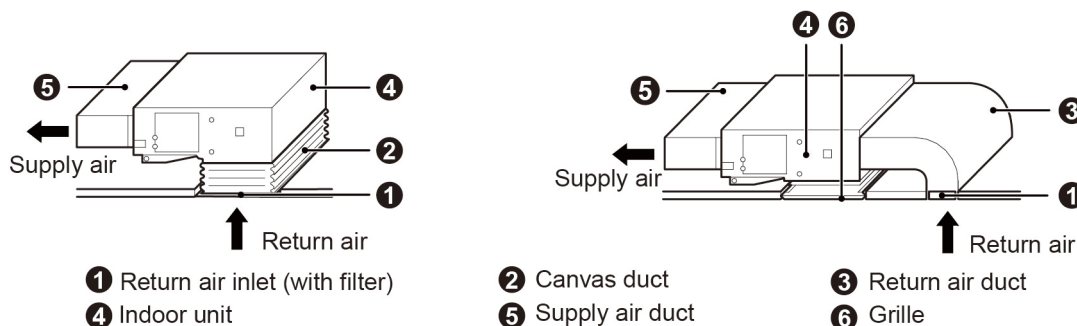

Fig.4.4.7
- (2) If the bottom return air is desired, just change the place of the rectangular flange and the return air cover plate. The bottom return air is only apply to GMV-ND07~54PHS/B-T(U).
- (3) Connect one end of the return air duct to the return air outlet of the unit by rivets and the other to the return air louver. For the sake of the convenience to freely adjust the height, a cutting of canvas duct will be helpful, which can be reinforced and folded by 8# iron wire.
- (4) More noise is likely to be produced in the bottom return air mode than the rear return air mode, so it is suggestive to install a silencer and a static pressure box to minimize the noise.
- (5) The installation method can be chosen with considering the conditions of the building and maintenance etc., as shown in Fig.4.4.7.